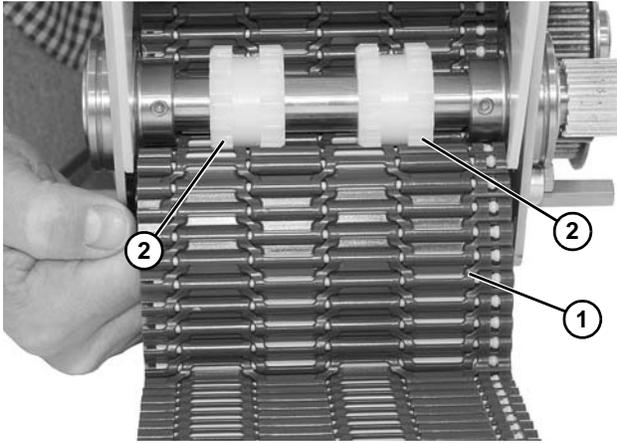

Figure 72
4. Raise chain (**Figure 72, item 1**) into position, and move gears (**Figure 72, item 2**) so that cogs line up with chain, as shown.